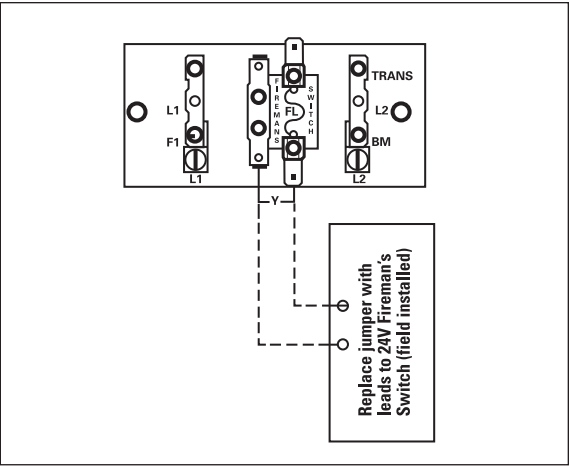

Figure 3-19
4. Remove the factory-installed jumper between the Fireman's Switch terminals. (See Figure 3-19.)